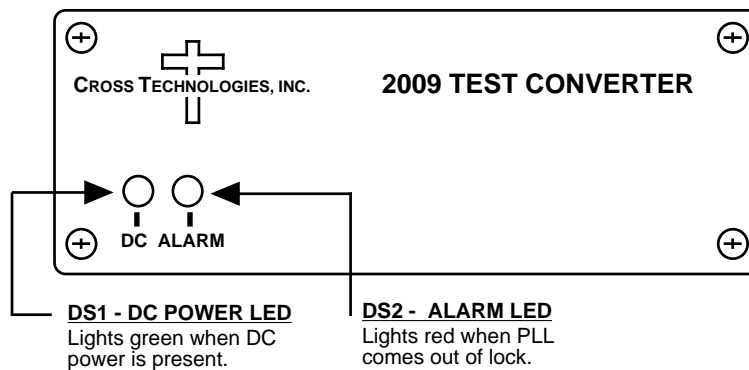

FIGURE 2.2 Model 2009-8487P Front Panel Indicators
Figure 2.2 shows front panel indicators.
4. Be sure DS1 (green, DC Power) is on and DS2 (red, Alarm) is off (Figure 2.2).